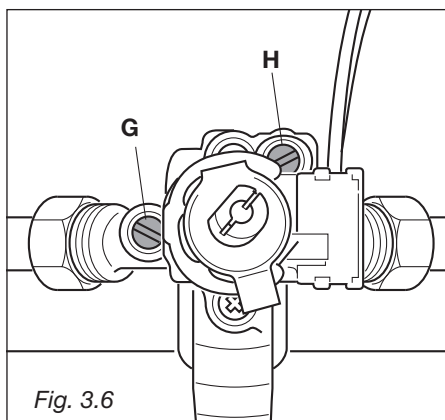

Fig. 3.6
- Using a screwdriver turn the screw **H** until the correct setting is obtained (fig. 3.6).
- Using a screwdriver turn the screw **G** until the correct setting is obtained (fig. 3.6).